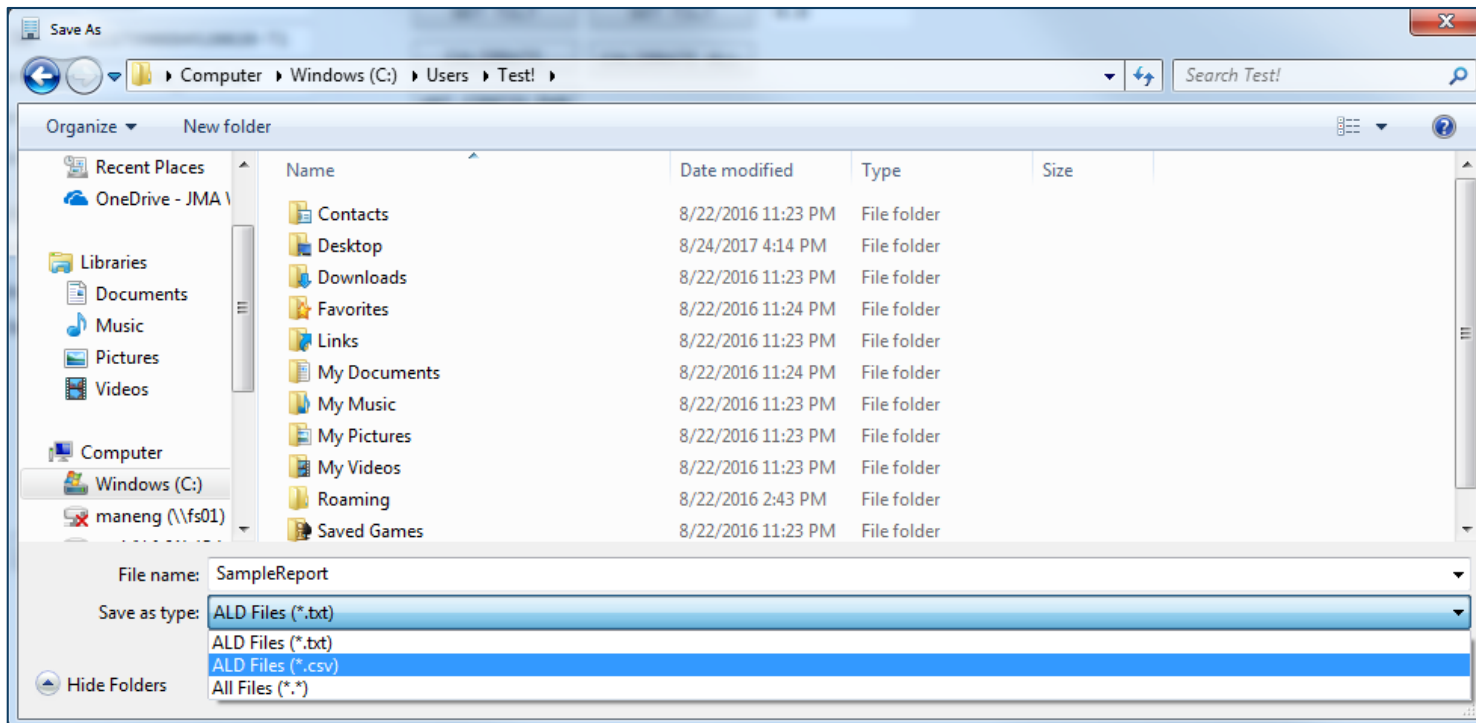

Fig. 11 – Save as .txt or .csv
j. This icon is for saving the report in .txt or .csv formats for the devices from the ALD list. See *Figures 11 and 12*.